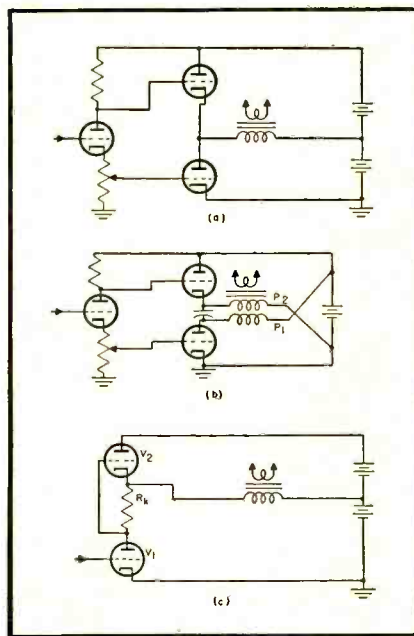

Fig. 2. Series-balanced output stage arrangements.
Fig. 2. Loran Trainer installation. Below, trainer table with chart on top surface which represents the ionosphere. "Crab" travels on masonite-covered platform below chart, and indicates its position by a light beam projected upward from center of transducer. Right, control cabinet for the Loran Trainer.
A photograph of the complete trainer is shown in *Fig. 2*. (A) is a view of the trainer table, and (B) shows the control racks. The design of the trainer is based on the fact that the velocity of radio signals in air bears a constant ratio to the velocity of sound in air. Specifically, the velocity of sound in air at room temperature is approximately 0.186 nautical